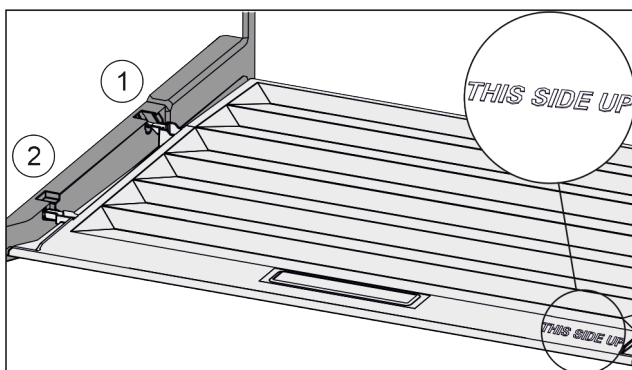

Fig. 118
- Insert the lip of the cover over the opening of the rear bracket Fig. 118 (1) and click into place Fig. 118 (2).